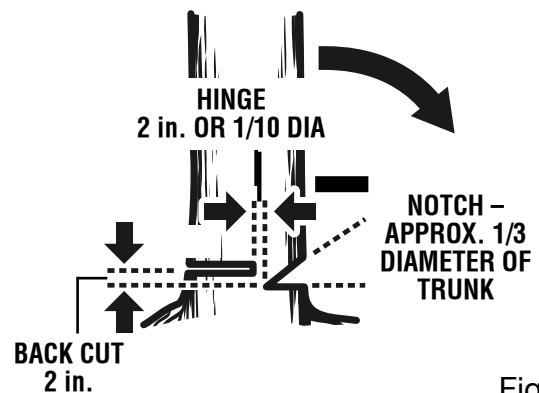

Fig. 16
- **Notched Undercut.** Cut a notch about 1/3 the diameter of the tree, perpendicular to the direction of fall. Make the cuts of the notch so they intersect at a right angle to the line of fall. This notch should be cleaned out to leave a straight line. To keep the weight of the wood off the saw, always make the lower cut of the notch before the upper cut. *See Figure 16.*
- **Felling Backcut.** The backcut is always made level and horizontal, and at a minimum of 2 in. above the horizontal cut of the notch. *See Figures 16 - 17.*
tree). This is called “hinge” or “hingewood.” It controls the fall of the tree and prevents slipping or twisting or shoot-back of the tree off the stump. See Figures 16 - 17.